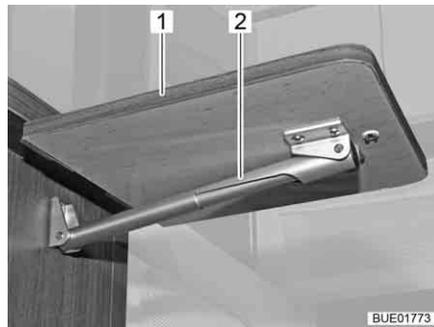

Fig. 122 Folding worktop, unfolded
- Hold the folding worktop (Fig. 122,1) from below and pull gently to release it from the magnetic holder.
- Swing up the worktop until the locator of the telescopic holder (Fig. 122,2) engages. Let go of the worktop.